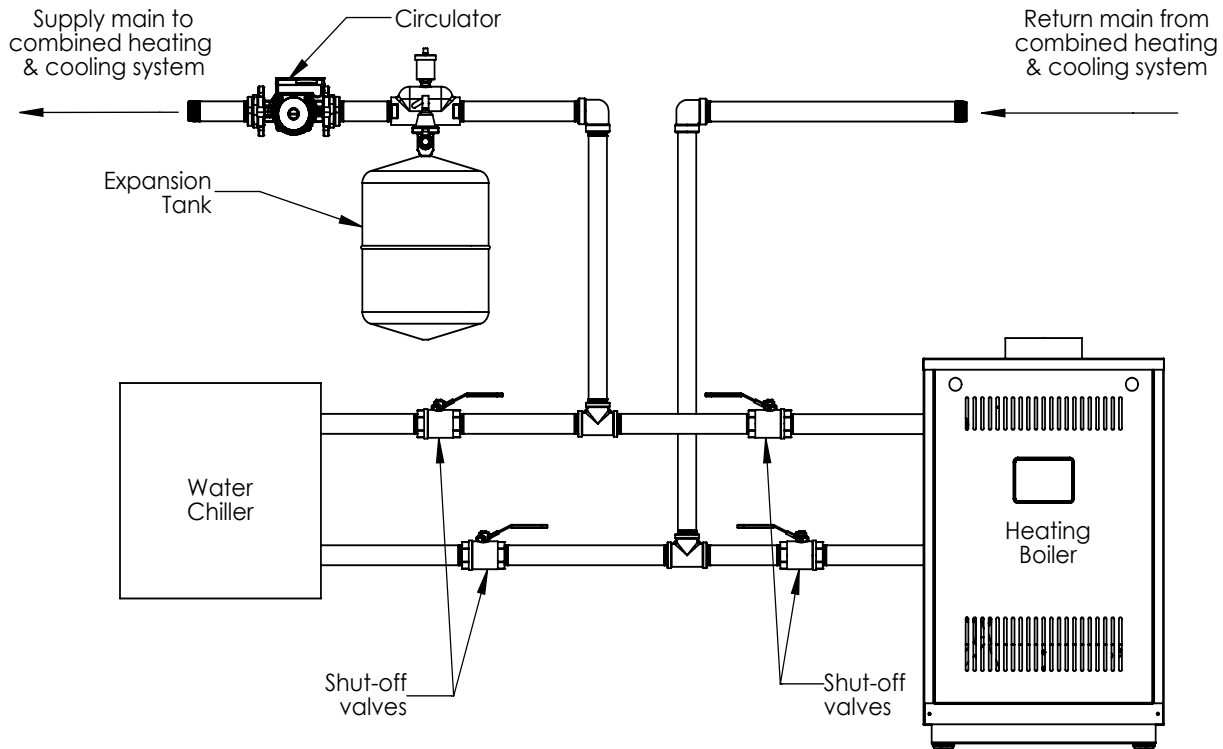

Figure A-1: Isolated Boiler from Refrigeration System
- A. If boiler is used in connection with refrigeration systems, boiler must be installed with chilled medium piped in parallel with the heating boiler using appropriate valves to prevent chilled medium from entering boiler. See Figure A-1. Also consult Residential Hydronic Heating Installation and Design I=B=R Guide.